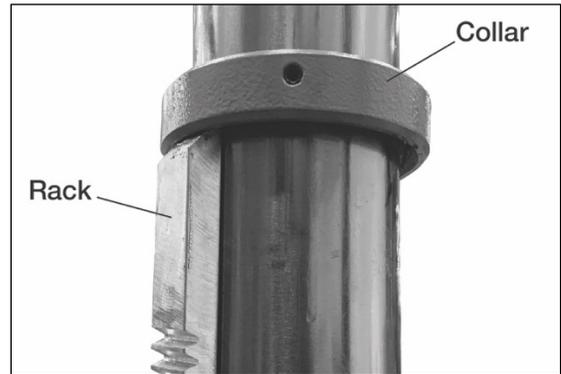

Figure 6-3
5. Remove collar (T1) and rack (T2) from column. See Figure 6-3.